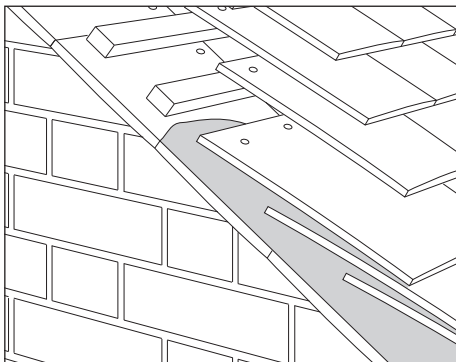

Fig. 8 – Undercloak using Plain tiles
- 2 Lay face down with tail edge facing outwards (Fig. 8).